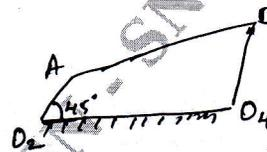

Fig.Q3
- 3 Fig.Q3 shows a four bar mechanism, crank  $O_2A$  rotates at 200 rpm and an angular acceleration of  $150 \text{ rad/sec}^2$  at the instant when the crank makes an angle of  $45^\circ$  to the horizontal. Find the acceleration of points B & C and angular velocities and angular acceleration of link 3 and 4.